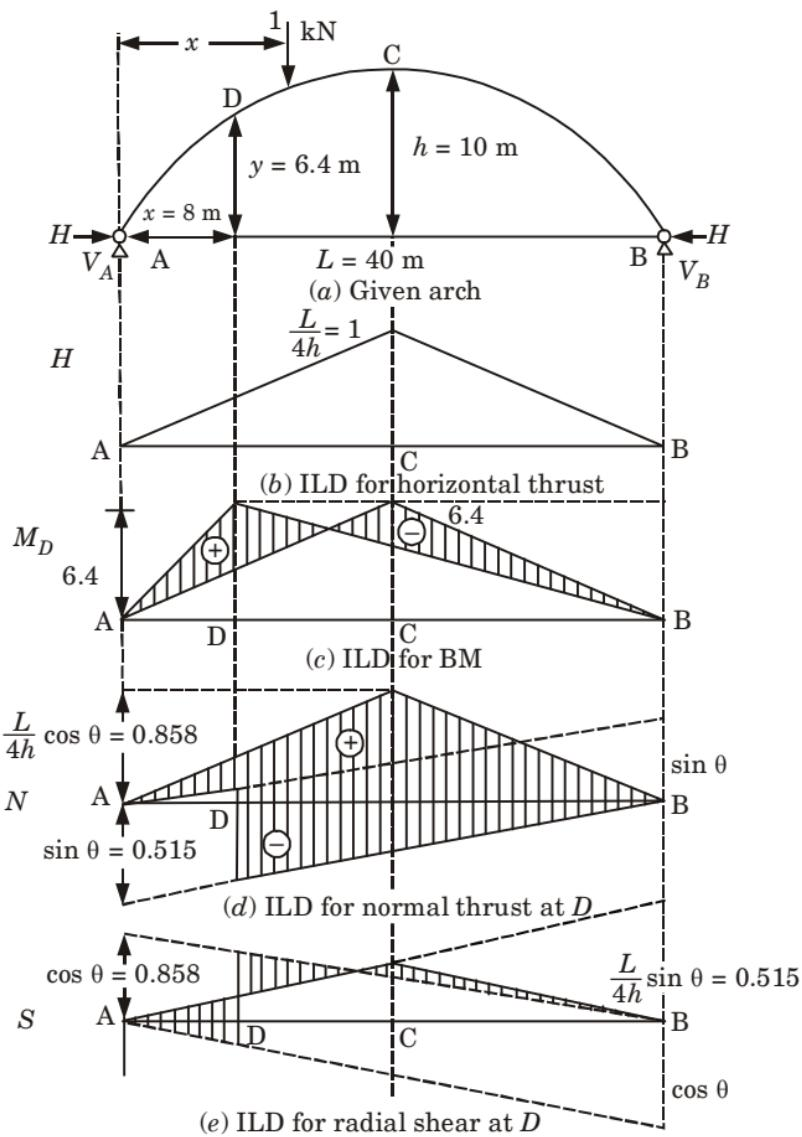

Fig. 5.20.1.
- vi. ILD for horizontal thrust is shown in Fig. 5.20.1(b). This is an isosceles triangle having an latitude equal to  $\frac{L}{4h} = \frac{40}{4 \times 10} = 1$  unit.